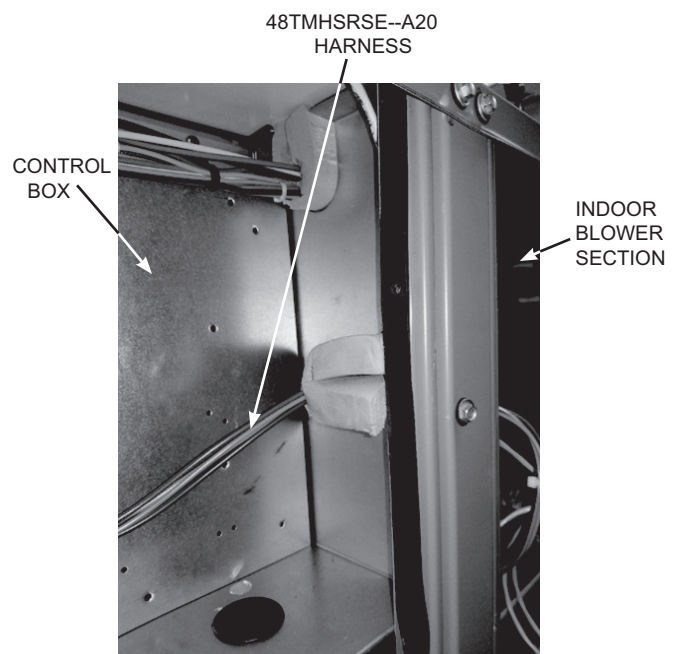

Fig. 14 — Route 48TMHSRSE--A20 Harness to Indoor Blower Section
18. Route the 4-wire 48TMHSRSE--A20 harness through the divider between the control box and the indoor blower section. See Fig. 14.